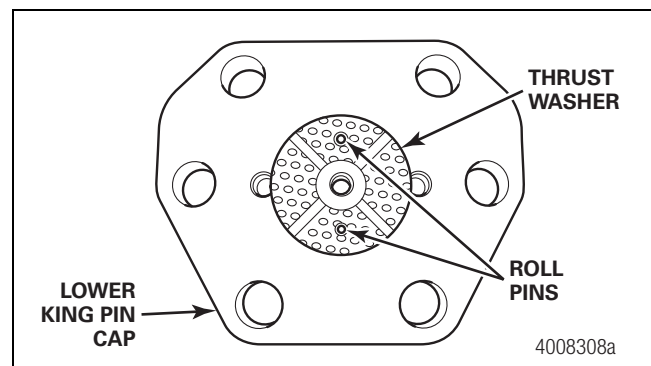

Figure 9.12
6. If removed, install new roll pins. The roll pins must not stand out above the shim pack and thrust washer. Figure 9.12.